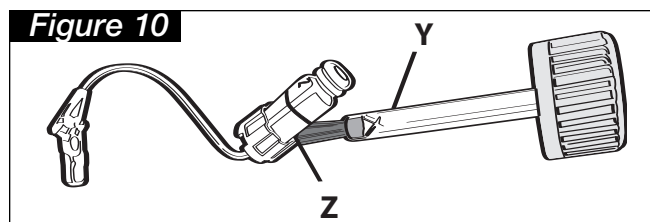

Figure 10
Step 8. Use the *Gruz Button™ Accelerator* and wipe off *Instant GluePruf™* (Figure 10)